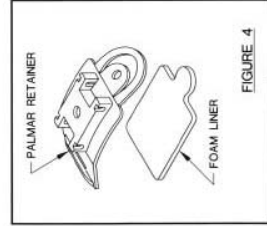

FIGURE 4
- 4 Apply foam liner to underside of palmar retainer see **Figure 4** **page 7**.